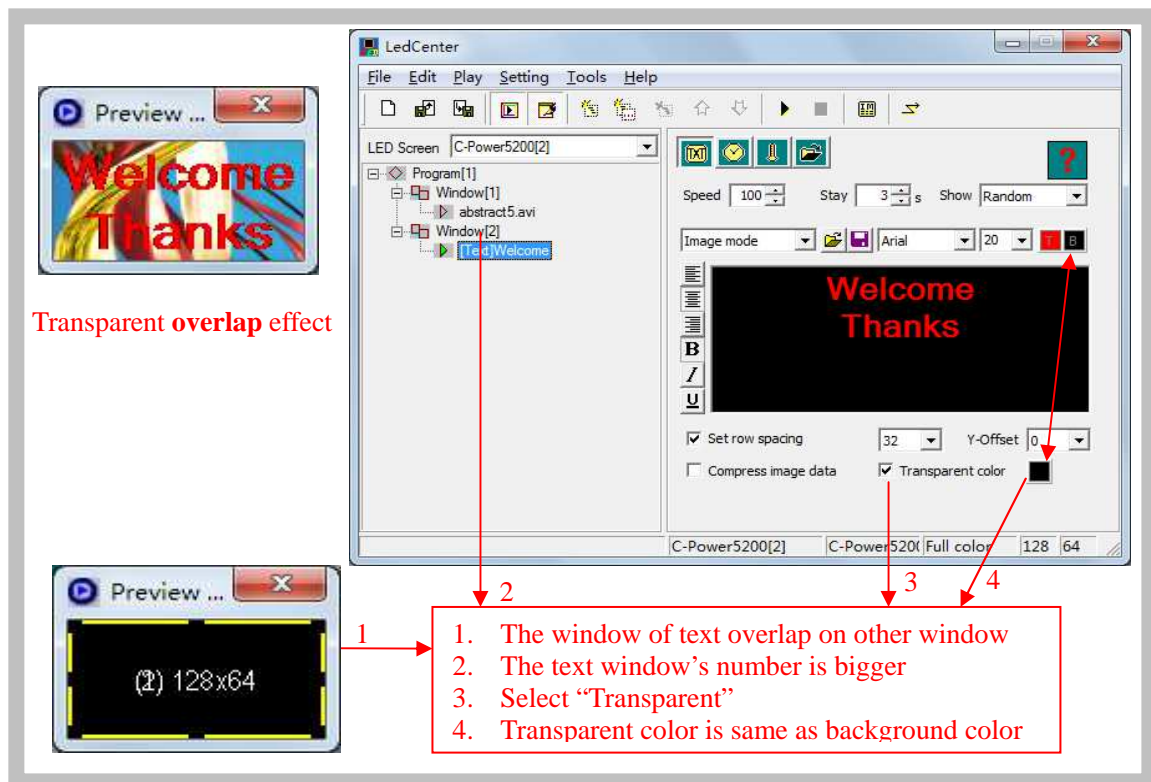
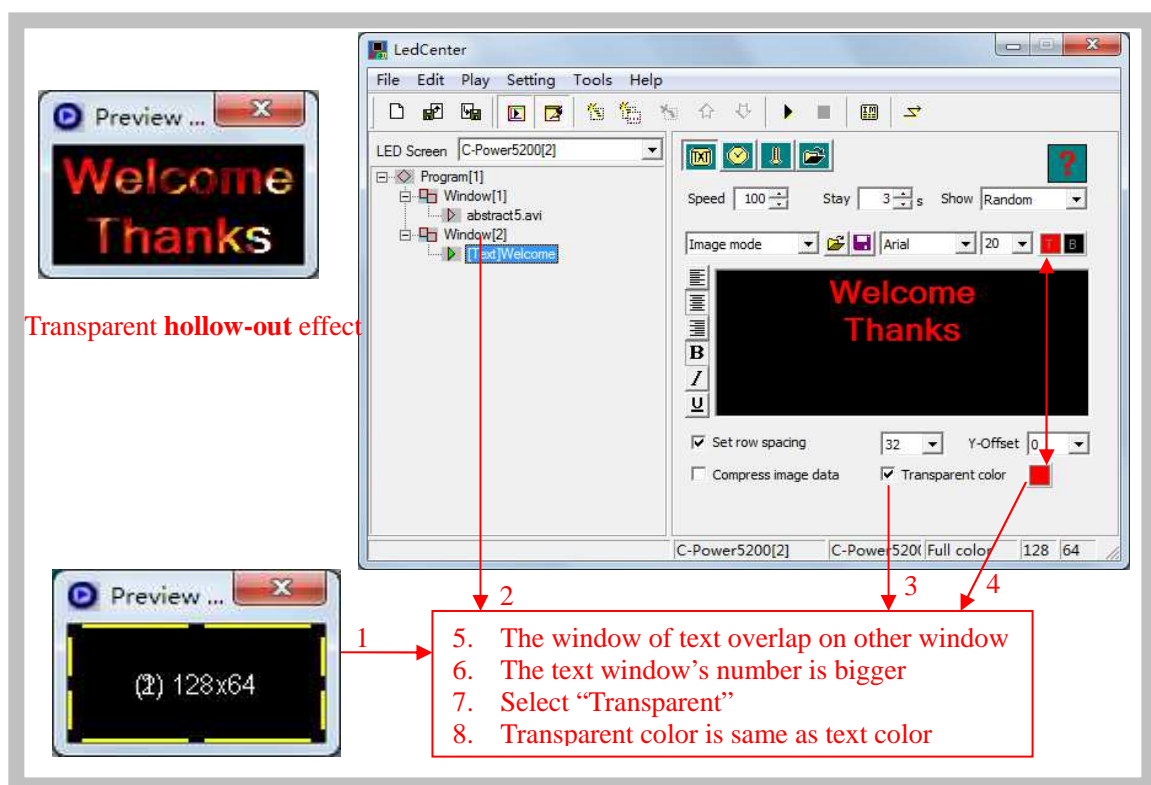

Figure23 Text transparent overlap setting
Figure24 Text transparent hollow-out setting
- **Transparent or hollow-out:** Text program can set to be transparent or hollow-out, and overlay to picture, animation or video programs, as Figure23 and Figure24 shown.
Text program can set to be transparent or hollow-out, and overlay to picture, animation or video program's window, as Figure23 or Figure24 shown. The following setting should be set:
the overlapped window's content (as Figure23 shown).
When the transparent color is the text color, the text is hollow-out to show the overlapped window's content (as Figure24 shown).